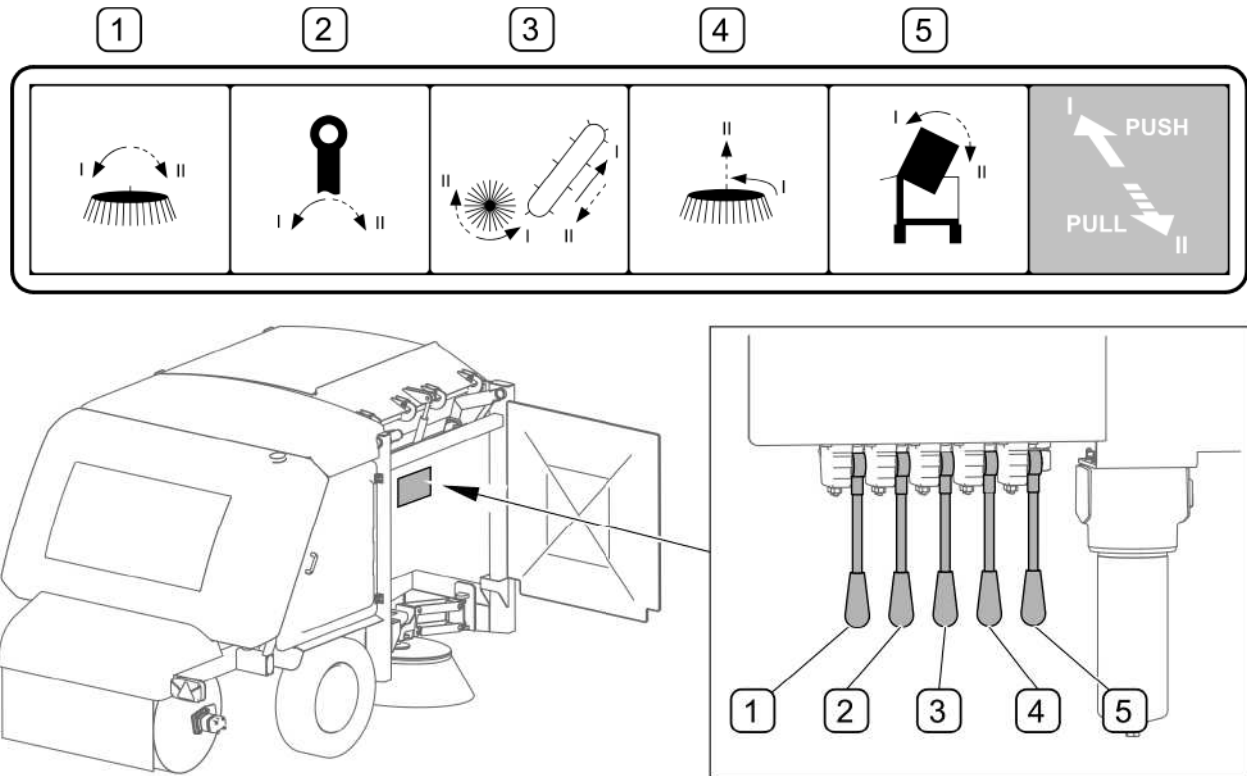

FIG. 5.17 Levers of electrohydraulic distributor
Electrohydraulic distributor (FIG. 5.17) enables manual activation of individual functions of the sweeper without the use of control panel. Levers of electrohydraulic distributor may be operated only when the machine is parked and when exercising particular caution. Manual control is used in case of the control panel failure or during service work in order to check individual functions of the machine. Each of the distributor levers has two functions (I and II) and the neutral (central) position. Move the lever forwards (away) to activate function "I" or pull the lever to activate function "II". Open the front right-hand shield in order to gain access to the levers of electrohydraulic distributor.
MARKING OF LEVER (FIG. 5.17)	DESCRIPTION OF FUNCTIONS OF DISTRIBUTOR LEVERS
Be especially careful when controlling the electrohydraulic distributor (FIG. 5.17) levers. Lever (5) may be operated only if the waste tank is empty.